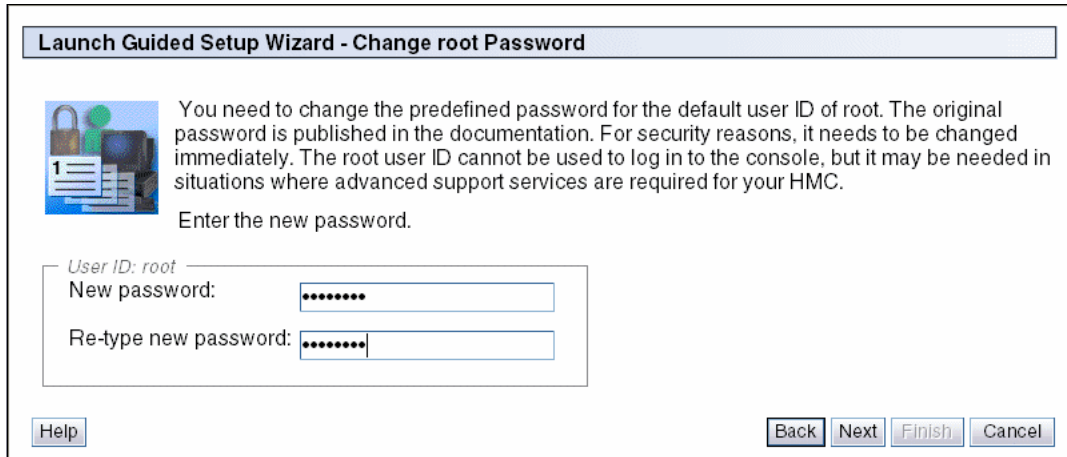

Figure 3-13 Launch Guided Setup Wizard - Change root Password
6. The Launch Guided Setup Wizard - Change root password panel displays as shown in Figure 3-13. Enter the new *root* password that you would like (normally the default password ID *passwd0rd* where *0* is the number zero). You should use *root* password rules same as *hscroot* password rules before. A service provider uses the *root* user ID to perform maintenance on the server.